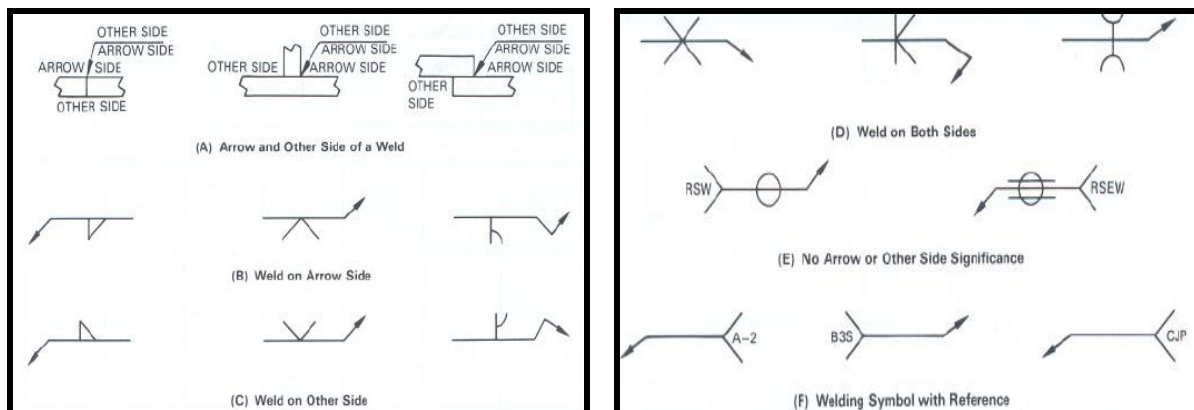

Figure-3: Significance of Arrow, shown in figure (A) to (E).
3.1 Significance of arrow – The arrow in a welding symbol determines on which side the welding has to be done. The description of arrow is shown in figure-3.